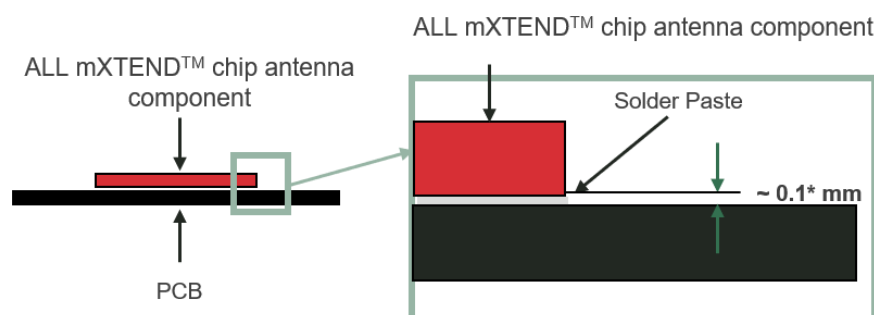

Figure 5 – Soldering Details.
2. Perform a reflow process according to the temperature profile detailed in Table 4, Figure 5 and Figure 6.